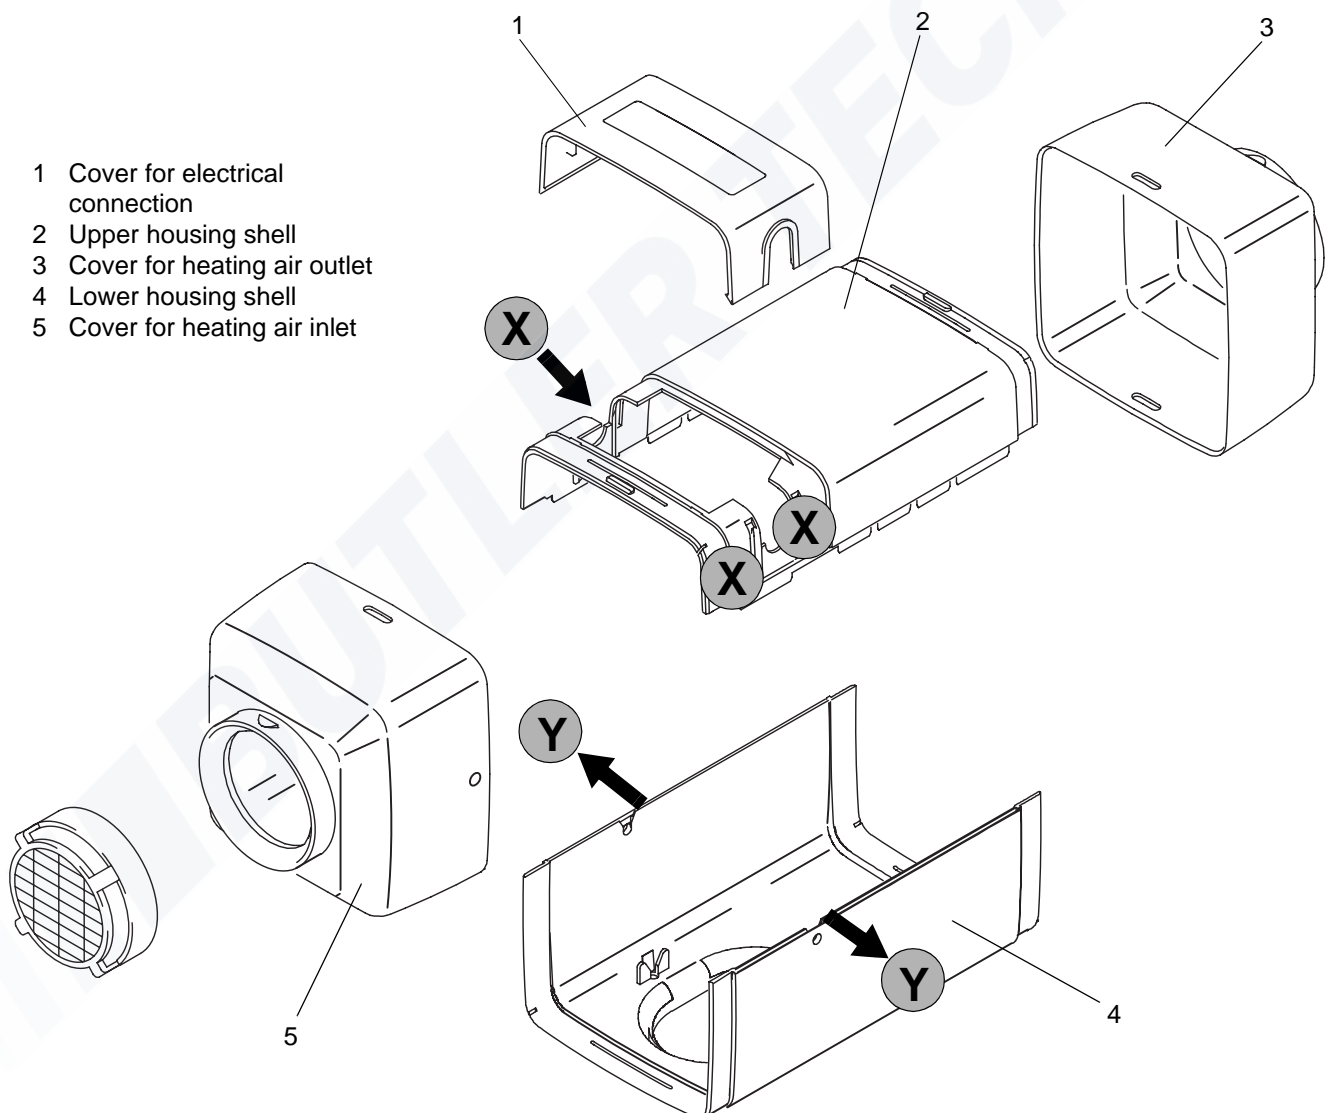

Fig. 901 Removal of Housing Components / Covers
The wiring harness leaves the heater either on the left or right side depending on installation conditions. The cover (1, Fig. 901) may be levered off on both sides with a blunt blade in the areas (X) and can then be pulled off.
Both covers (3 and 5, Fig. 901) may be unlocked from arrested position and removed by pressing in the locking tabs (top and bottom).
The upper housing shell (2, Fig. 901) may be lifted after removal of the covers for the heating air inlet and outlet.
An easy pull on both sides of the lower shell (4, Fig. 901) in the areas (Y) unlocks the shell from arrested position to be separated from the fan housing.
1. Remove cover (1, Fig. 901).